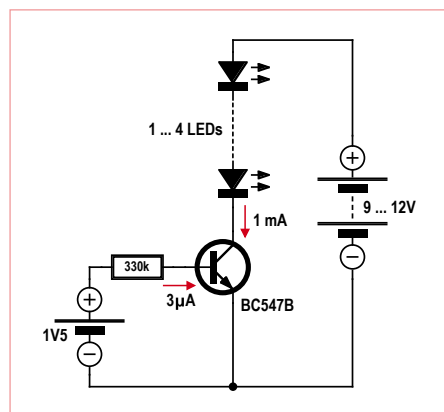

Figure 2. Constant current.
**Figure 2** shows a constant current source built around a single transistor. It can be used with a wide range of supply voltages and with different numbers of LEDs wired in series. The collector current is nearly constant. In technical terms, we say that the constant current source has a large differential internal resistance  $R_i$ , where  $R_i = dU/dI$ . In this circuit the constant base current is provided by a separate voltage source.